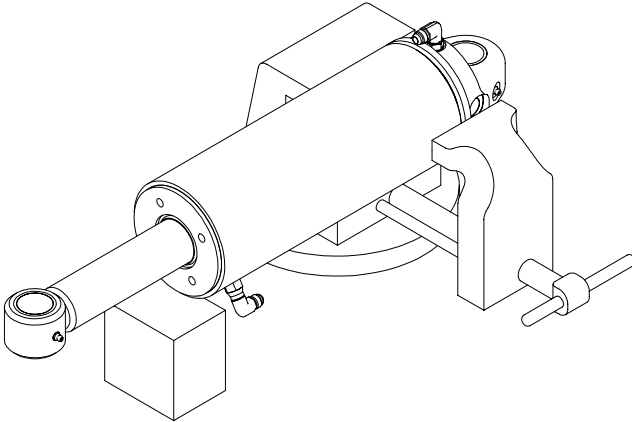

Figure 5-36, Cylinder Vise
2. Clamp the cylinder lightly at the base end in a soft-jawed vise. Use a block or other support under the rod end of the cylinder. (Figure 5-36)